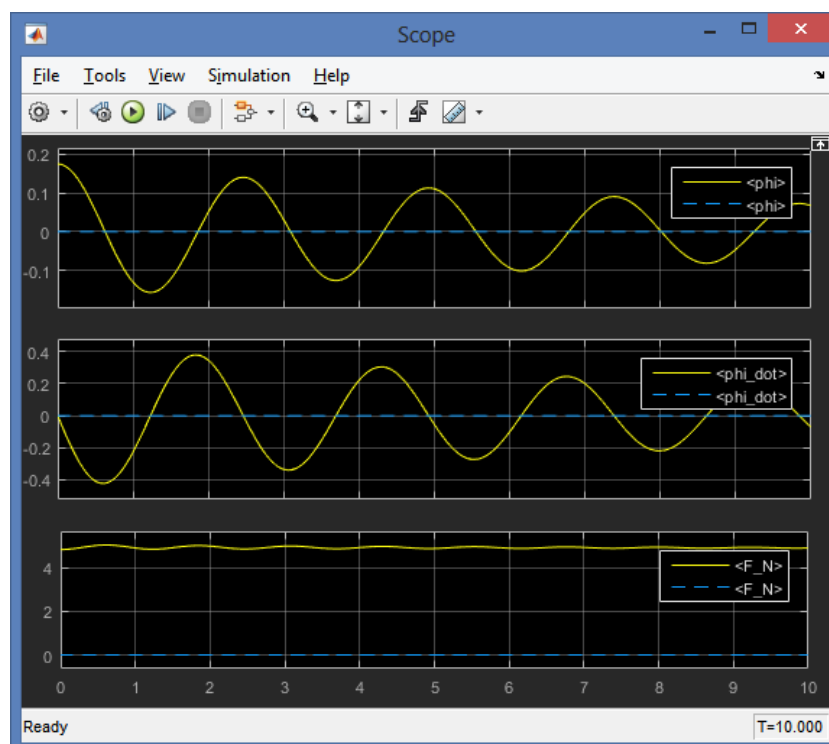

Figure 2-3: Simulation output for non-linear simulation
(7) Add a second subsystem on the root level, rename it to `visualization`.
- (8) Now the simulation can be run. **Ignoring the warnings for now**, the Scope should look like Figure 2-3.